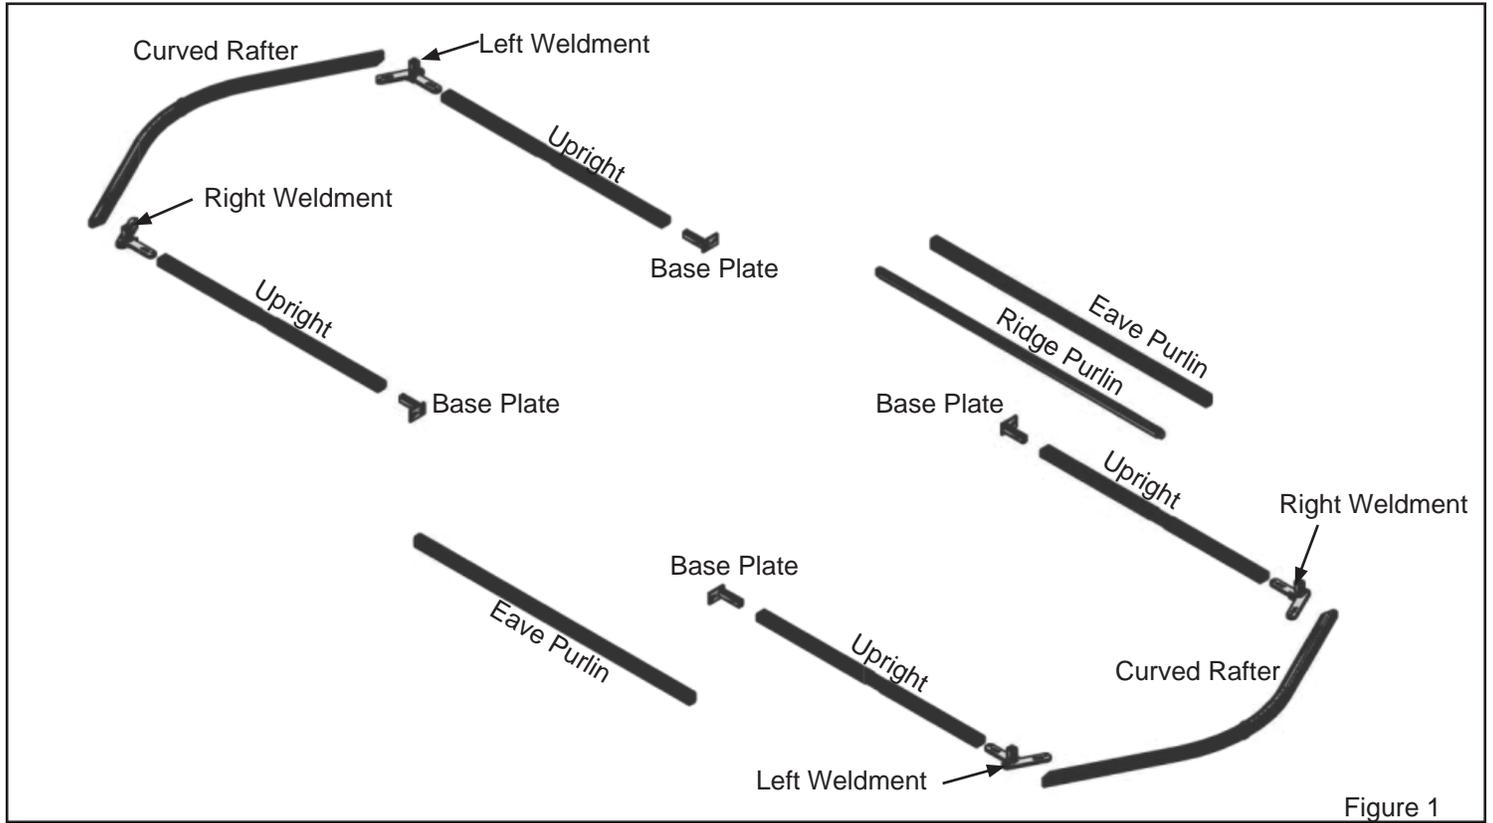

Figure 1
1. Identify and lay out all components as shown in Figure 1.